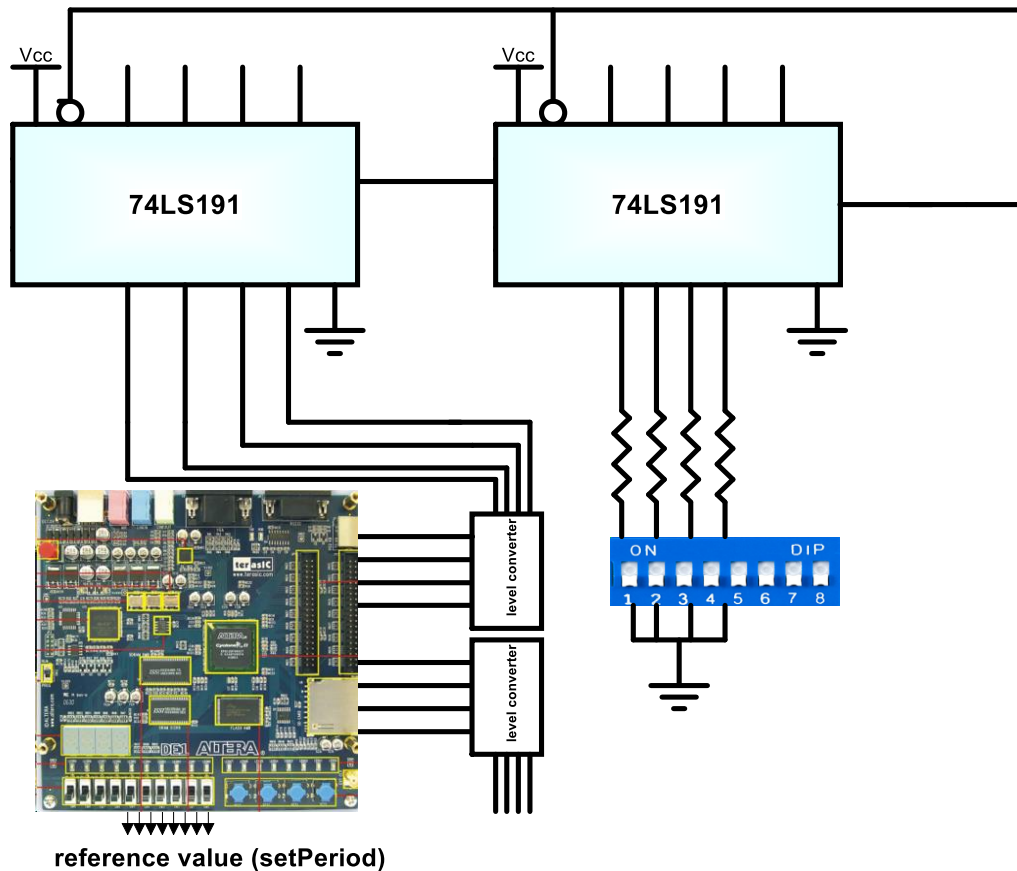

Fig 3: Connections of the design
- 1- Change the port declaration of your Verilog code in order to meet the connection layout of Fig 3.